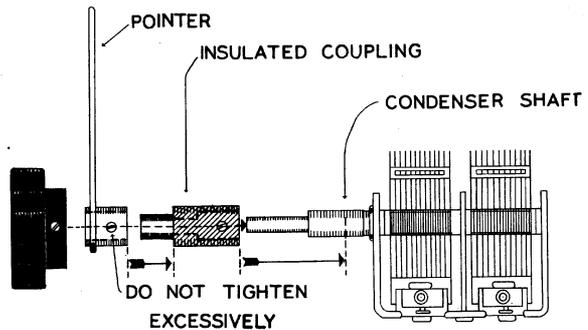

Fig. 8
- (✓) 21. Place the chassis in normal position. As shown in Figure 8, assemble the transparent pointer to the insulated coupling. Tighten the set screw in the pointer with care so as not to deform the coupling. This would cause binding and interfere with smooth operation of the vernier drive. Slip the coupling and pointer over the condenser shaft. Shift the condenser insulator plate slightly as required to center the pointer bushing in the panel clearance hole. Then securely tighten the four 6-32 screws holding the condenser plate to the chassis.